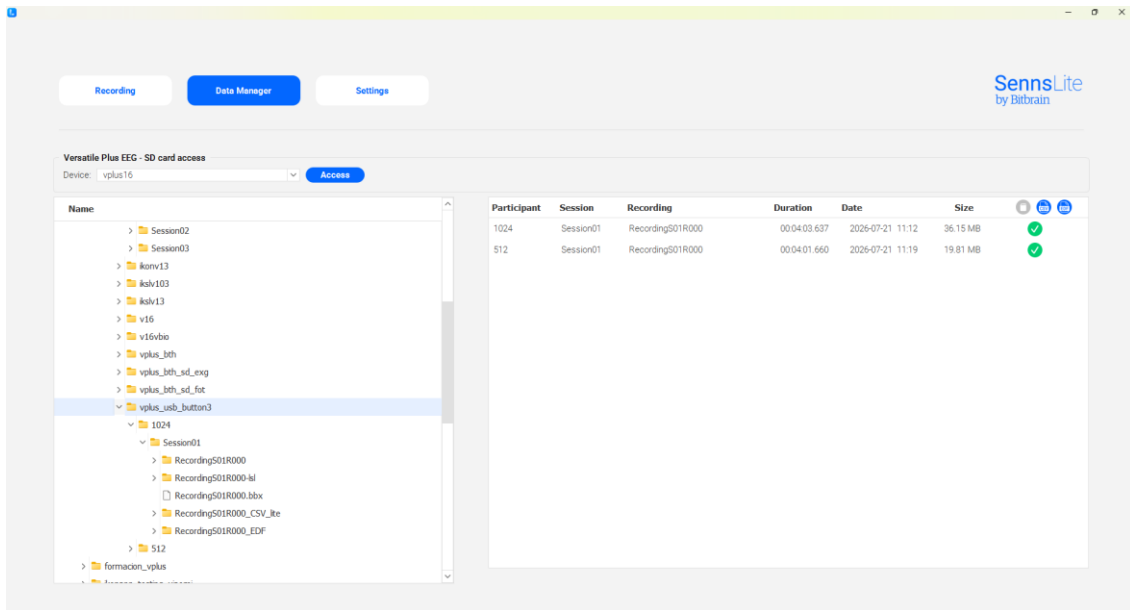
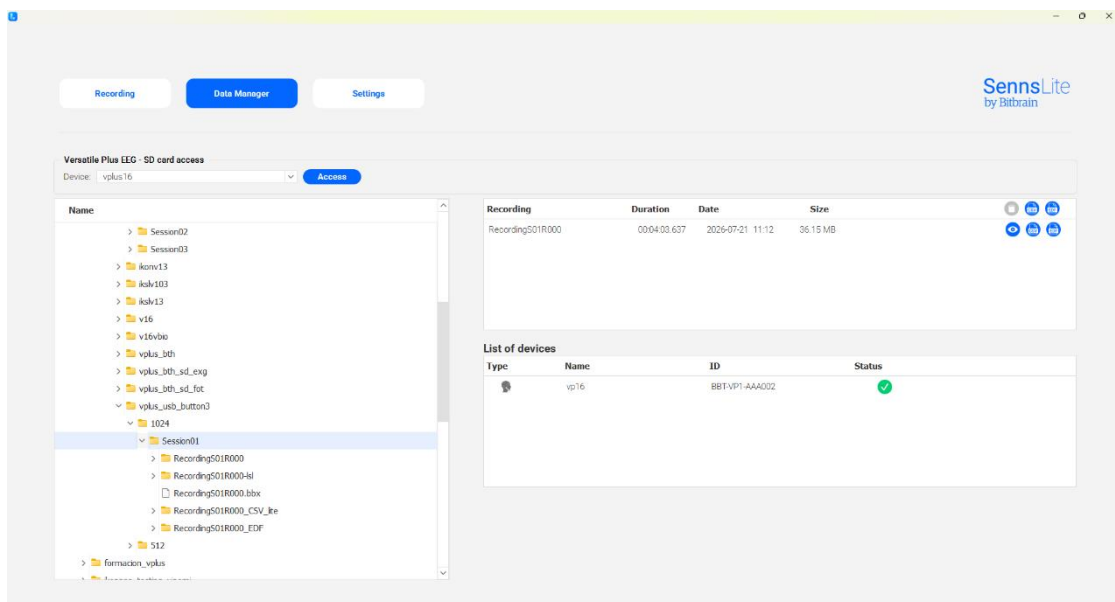
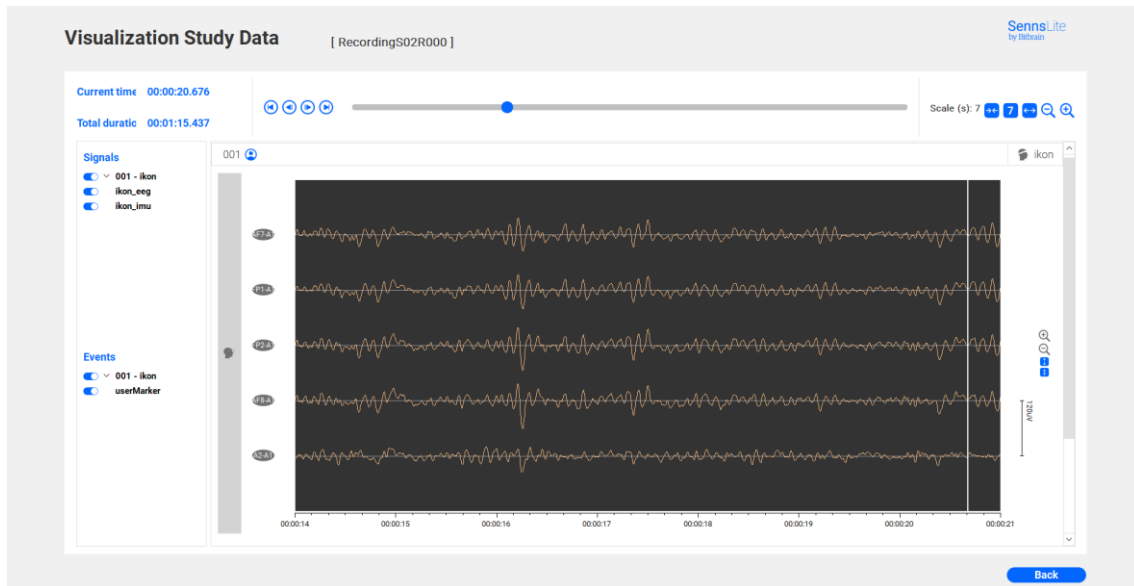

Figure 25. Dataset-Level Operations in the Data Manager
Figure 26. Session-Level Operations and Device Information Panel
Figure 27. Window for offline visualization of recordings
Depending on the selected folder, these actions can be applied either to an entire dataset (Figure 25) or to a specific session (Figure 26):
Alternatively, by selecting an individual session folder, the upper-right panel will display all recordings belonging to the selected session (Figure 26). The buttons displayed at the “Recording” row can be used for data import and export at entire Recordings of a session level. Each Recording displayed in the Recording List can be managed individually (for data visualization and export, but not for data import) using the action buttons available on its corresponding row. In addition, the lower-right panel shows the list of devices used during the acquisition, including the device type, name, serial number, and SD card import status when applicable:
- If the SD card recording was not enabled during the session, these icons will show a **green checkmark**, indicating that the device was recorded correctly but without the SD card backup. Figure 25 and Figure 26 depict this status.
From left to right, the buttons showed at the upper-right panel in Figure 25 and Figure 26 allow the user (from dataset or session level) to import the SD card content, export the recording in CSV format (for all Bitbrain devices), and export the recordings in EDF format (only available for EEG devices).
The View Data button (blue eye icon) allows users to visualize the data recorded in a specific recording belonging to the selected session (only at session level, where the recordings are displayed; Figure 26).
The visualization window allows users to see the recorded signals in a specific Recording of a Session folder, within the software. Filter settings configuration is the same as the one described in Section 6.1.1. The window shown in Figure 27 can be accessed by clicking on the eye button that appears next to the specific Recording of a Session folder, as shown in Figure 26.